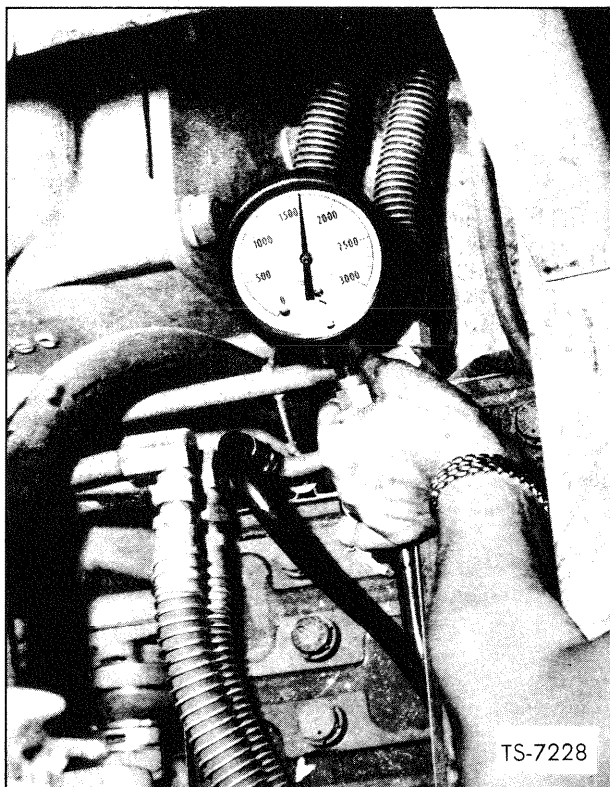

Fig. 26 Check Pressure—Main Relief Valve
3. Attach a hydraulic gauge of at least 3,000 psi. capacity to the lower check plug opening on the left hand side of the cross tube assembly. See Fig. 26.